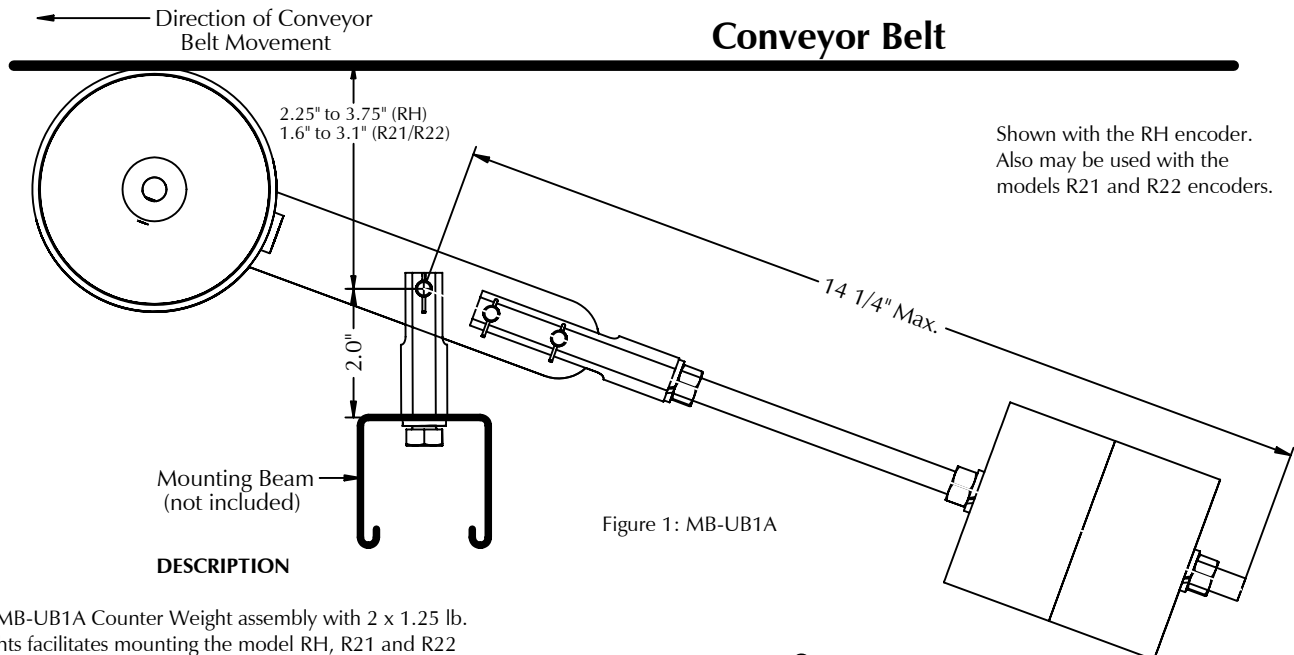

Figure 1: MB-UB1A
The MB-UB1A Counter Weight assembly with 2 x 1.25 lb. weights facilitates mounting the model RH, R21 and R22 wheeled encoders under the conveyor belt (or roller) as shown in figure 1. The Y-3 yoke provides a pivot point so the encoder wheels maintain contact and alignment with the belt, compensating for up/down and some sideways movement of the belt. Nylon washers are included to accommodate the thinner handle on the R21 and R22 encoders.
4. Bolt the Y-3 yoke to a mounting beam (not supplied) using the 3/8-16 bolt and lock washer. The Y-3 should be perpendicular to the conveyor belt with the pivot point below the conveyor belt as shown in figure 1, and positioned so the encoder is aligned with the belt. Caution: If the encoder is not aligned with the belt, premature wheel wear will result.